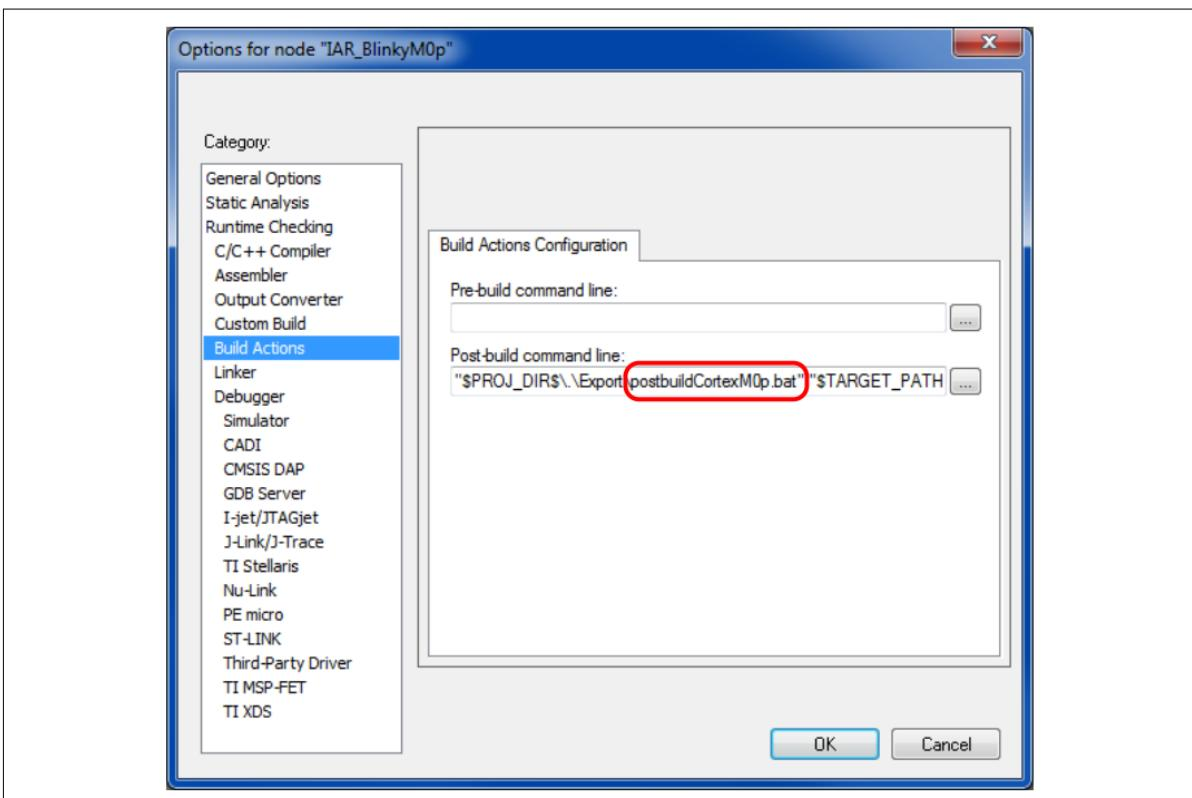

Figure 437 Select PSoC™ Creator post-build batch file
Now that the project is created, you must set its options. Right-click the project, and select **Options....**. Confirm in the Options dialog, **Build Actions** section that postbuildCortexM0p.bat is called, as Figure 437 shows
- In the **Build Actions** section, confirm that postbuildCortexM4.bat is called, see Figure 437